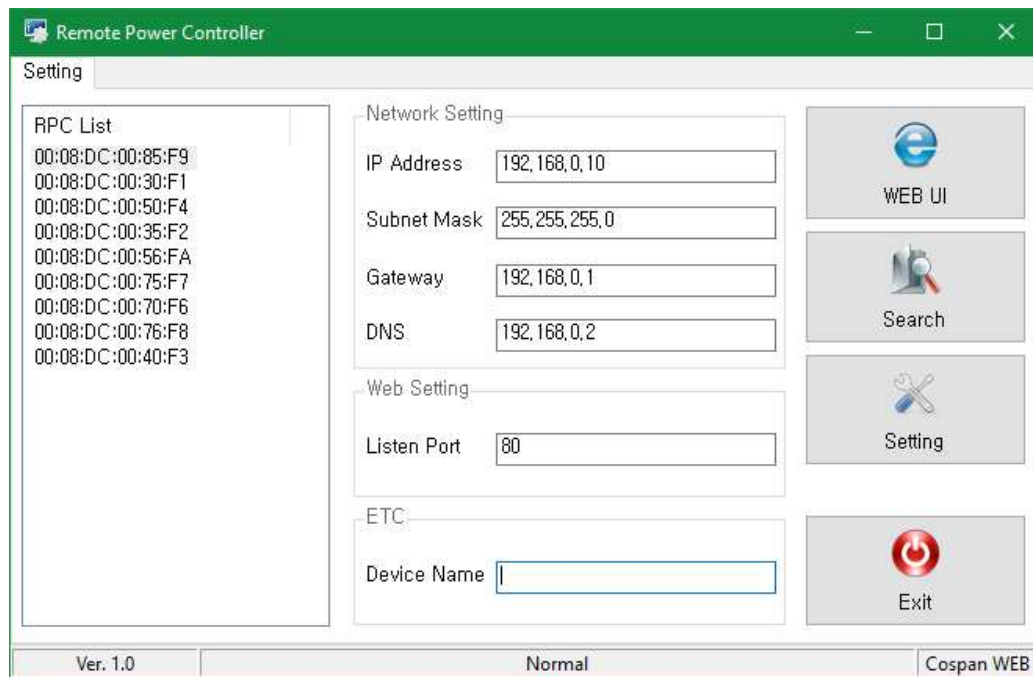

Figure 3-3. Default MAC address and network information
①	RPC list	MAC addresses of RPC-XXX connected in the same network.
②	Network Setting	Network information of RPC-XXX having the MAC address selected in the "RPC list" function.
③	Web Setting	Setting a web server port number.
④	ETC	Setting a installation place information of RPC-XXX.
⑤	Web UI	Run a web browser and connect to the selected RPC-XXX.
⑥	Search	Search the RPC-XXX connected in the same network.
⑦	Setting	complete all information setting.
⑧	EXIT	Close the management tool
- ⑤ Click “search” button(⑥) for searching the RPC-XXX connected to your computer.
- ⑥ MAC address of the RPC-XXX connected to your computer is displayed in the "RPC List" function(①) and the default network information is displayed when the MAC address is selected. (Figure 3-3)